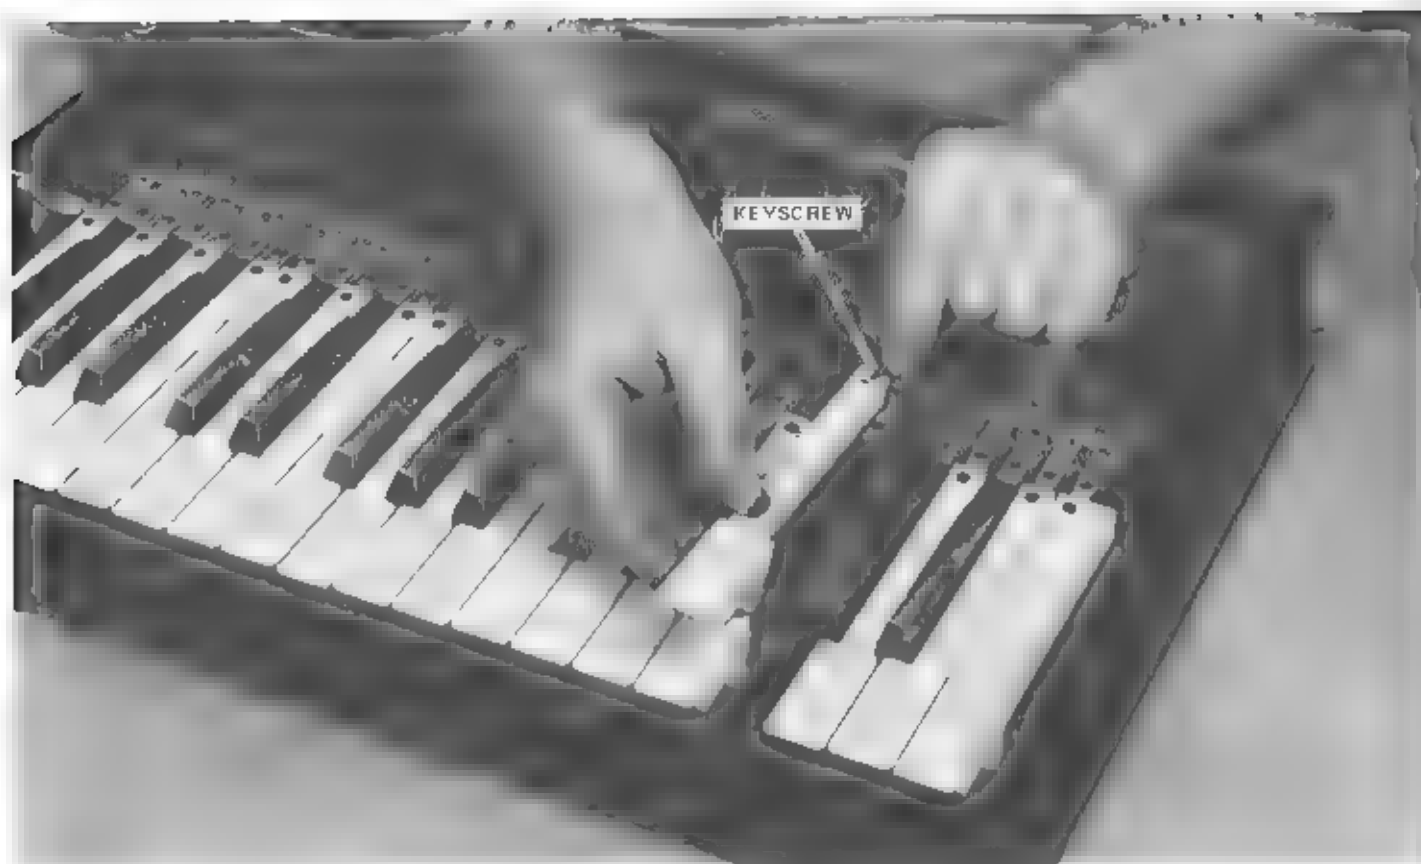

FIGURE 3.6 REMOVING IVORIES
h) Damaged "ivories" may be replaced as shown in Figure 3-6. Remove keyscrew, tip the back end of the ivory up about 20 degrees and slide ivory forward. It will be necessary to remove adjacent white ivories to remove a black ivory.